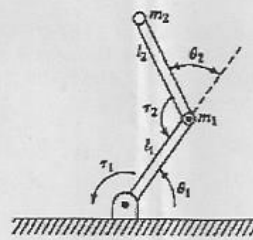

Figure 2
- (b) Describe the details about frame, position and orientation and rotation matrix in details. (13)
12. (a) With neat sketch explain the construction and working principle of hybrid stepper motor. (13)
- (b) With flow chart explain the factors involved on selection of motors and mechanical drives for the desired specification. (13)
13. (a) Explain how to find the joint torque of the given manipulator in figure 2 using N-E dynamic formulation. (13)